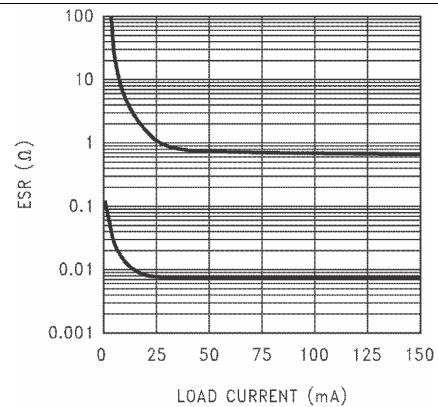

Figure 18. 2.2-μF Stable ESR Range for Output Voltage ≤ 2.3 V
- ESR range: see Figure 18 through Figure 20